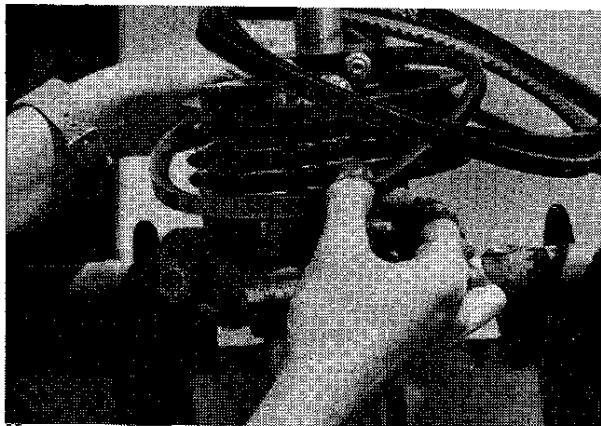

Figure 2.15
20. Install (4) 3VX250 belts on pulleys (in same sequence as break-in). **Figure 2.15**